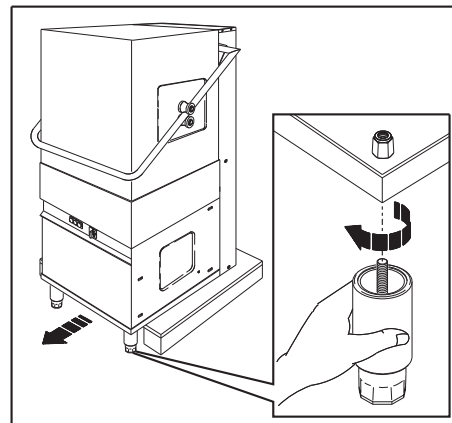

Fig. 4
3. Slide the machine across the pallet until two of the four holes provided for the supporting feet are free of obstruction (fig. 4).
Take one supporting foot and screw it in one of the two free holes (fig. 4).
Proceed with the assembly of the second foot following the same procedure (fig. 4).